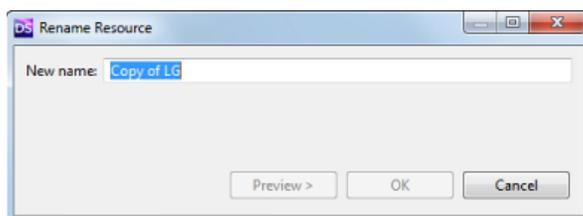

FIG. 21 Rename Resource dialog
5. (*optional*) - To rename the pasted Project, right-click on it and select **Rename** from the context menu. This action invokes the *Rename Resource* dialog (FIG. 21). Enter a unique Project Name in the *New Name* field (the program will alert you if there is already a file or folder using the new Project name), and press **OK** to save changes and close this dialog. The new name is reflected in the Project Explorer.